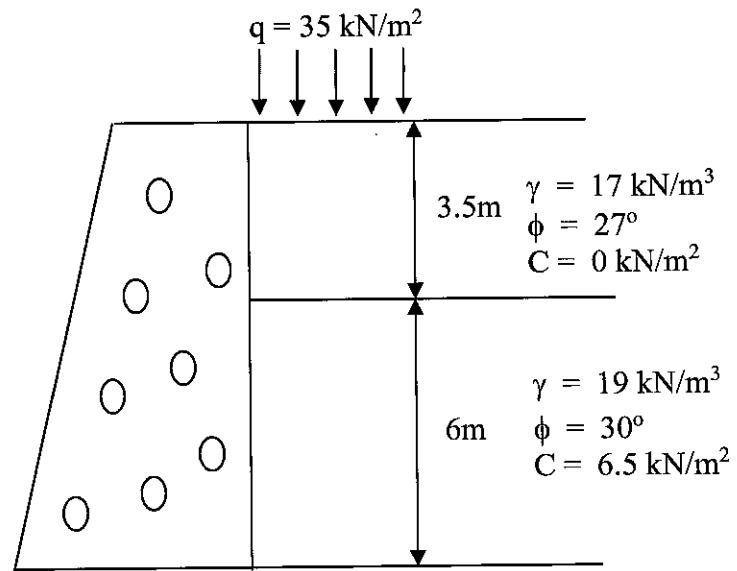

Figure B3(b)/ Rajah B3(b)
- CLO2 (b) Refer to Figure B3(b) and by using Rankine Theory, calculate the magnitude and position of active thrust that acts behind the wall before a tensile crack happens.